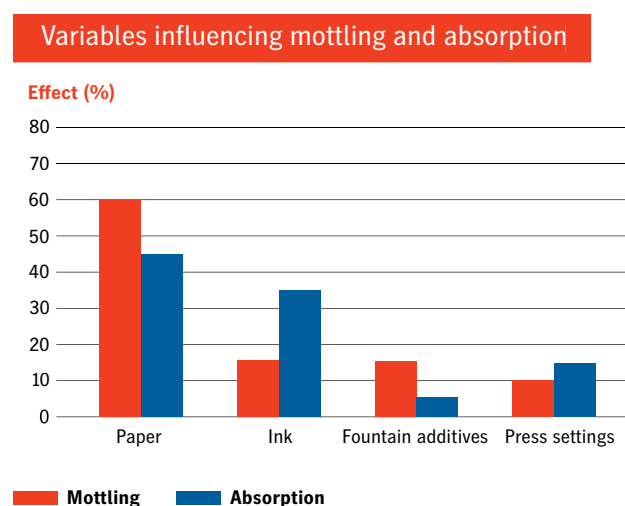

Fig. 3
- The most important variables were determined (Fig. 3).